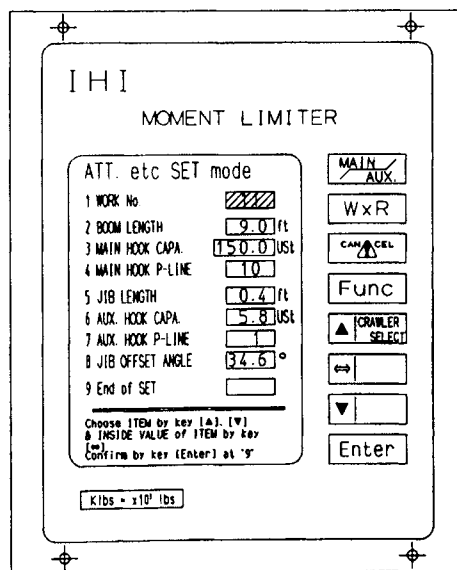

Figure 2
A. Bring the ATT. SET mode screen up on the Moment Limiter (see Figure 2).